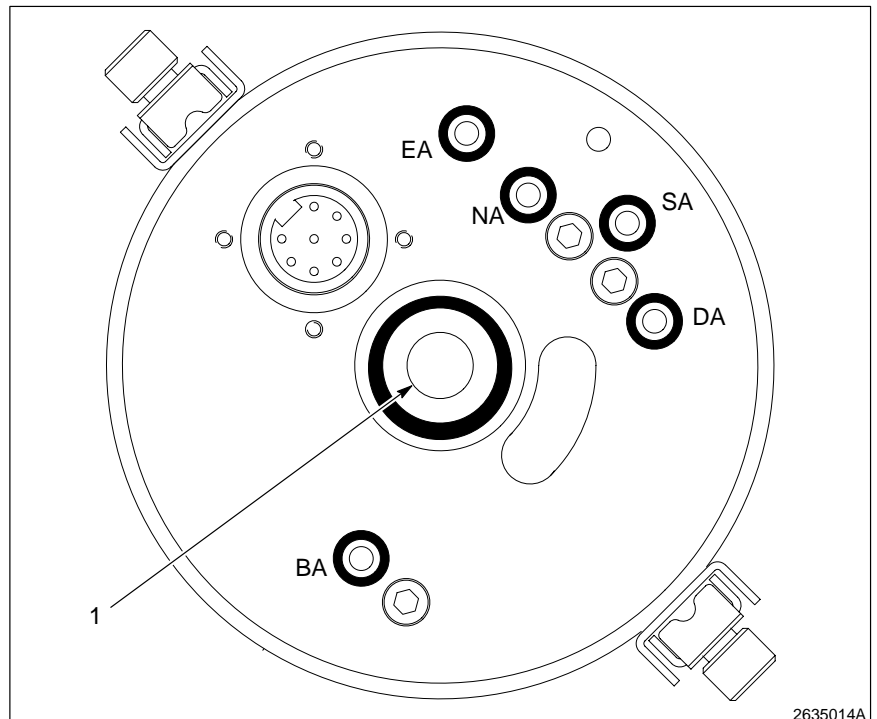

Fig. 3-3 Powder Feed Tube and Pneumatic Connections
See Figures 3-3. Attach the powder feed tube to the supplied connector (1). The connector accepts a feed tubing from 9.5–13 mm ($\frac{3}{8}$ – $\frac{1}{2}$ in.) ID. Typical is 11 mm ($\frac{7}{16}$ in.) ID.
See Figure 3-3. Attach the 5 pneumatic tubes to the appropriate fittings on the rear of the mount: